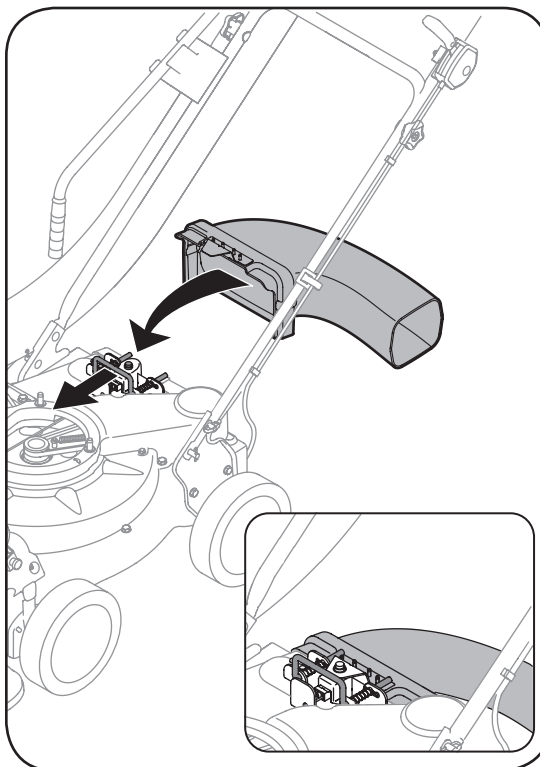

Figure 8
8. a. Grasp blower chute with one hand and slide locking rod on mounting bracket with other hand toward engine. Use the end of mounting bracket as leverage when sliding the locking rod. See Figure 8.
1. Grasp blower chute with one hand and pull lock rod on mounting bracket with other hand toward engine to release. Refer to Figure 8 on page 9.